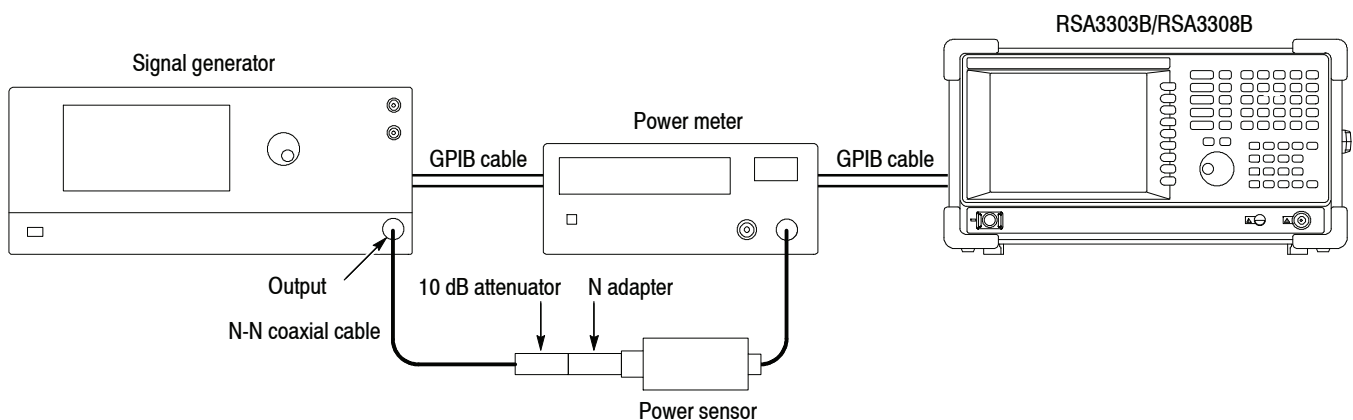

Figure 4-2: Initial test hookup
- b. Connect the power sensor output to the power meter input. See Figure 4-2.
- a. *Modify the hookup:* Connect the signal generator output through an N-N coaxial cable followed by a 10 dB attenuator and an N adapter to the power sensor input. See Figure 4-2 on page 4-7 again.